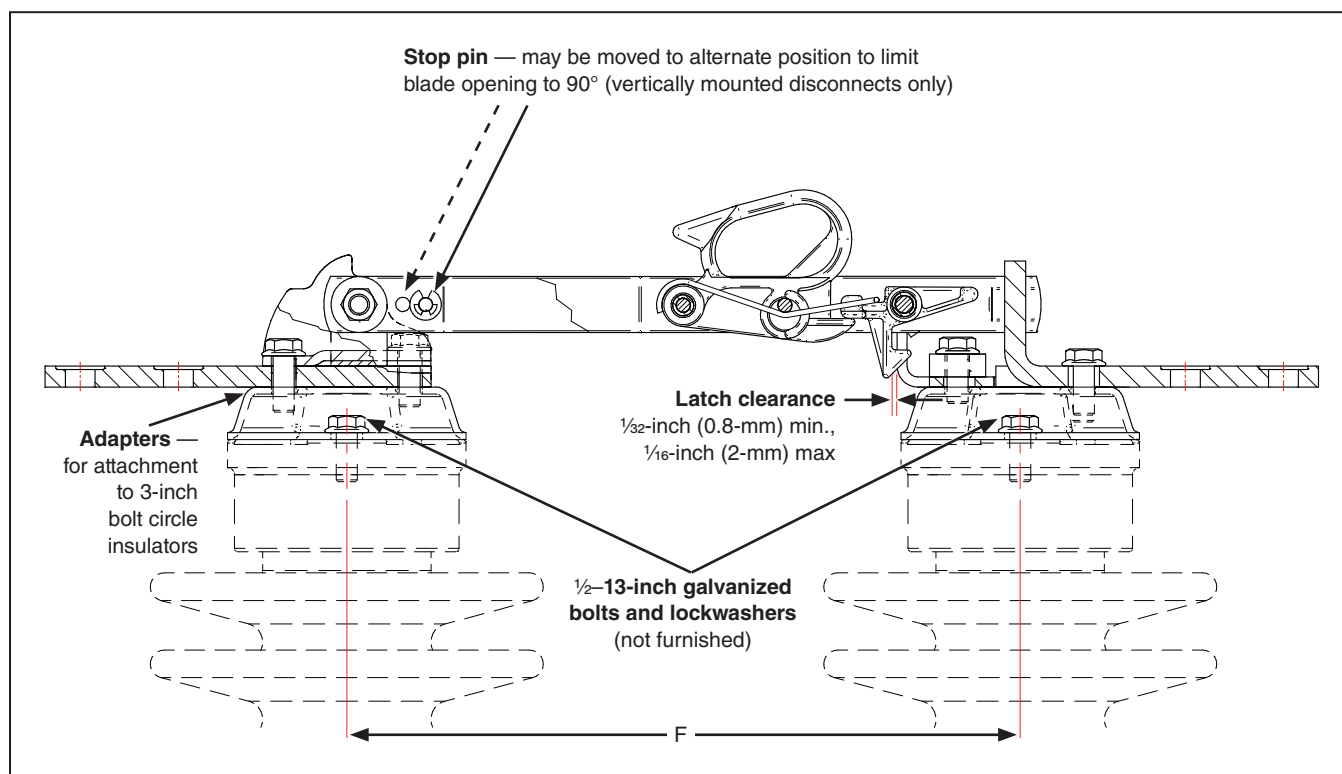
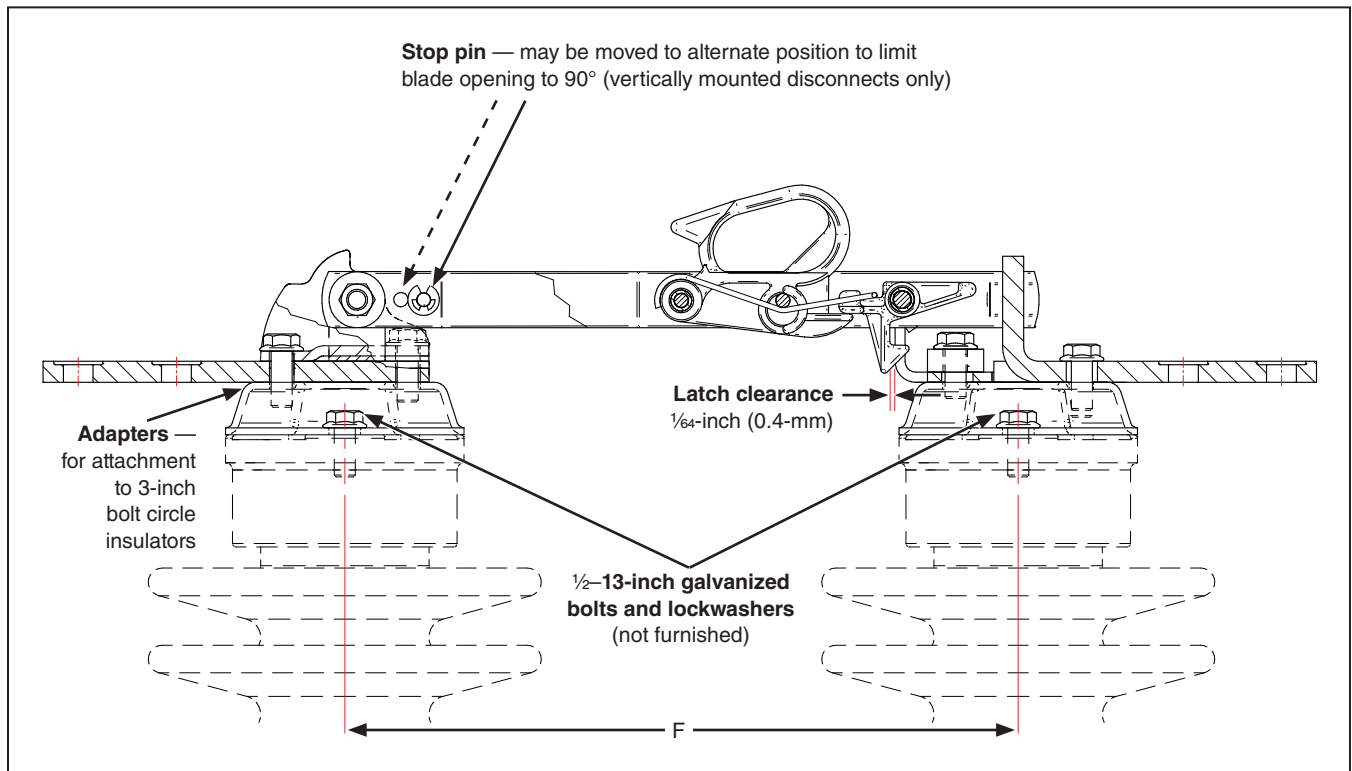

Figure 2. Loadbuster Disconnect Switch live parts rated 630 amperes.
Figure 3. Loadbuster Disconnect Switch live parts rated 900 amperes.
Loadbuster Disconnect Switch live parts rated 630 amperes are furnished with preassembled adapters suitable for attachment to 3-inch bolt circle insulators. Loadbuster Disconnect Switch live parts rated 900 amperes are furnished either with preassembled adapters or without such adapters. See Table 2 and Figure 2 on page 10 and Table 3 and Figure 3 on page 11.
- STEP 1.** Install the insulators on the base with a center-to-center distance as indicated by Dimension F. See Figure 2 on page 10 and Figure 3 on page 11.
For 630-ampere live parts: Increase or decrease the hinge-to-jaw distance—Dimension F in Figure 2 and Table 2—to attain the $\frac{1}{16}$ -inch (2-mm) maximum, $\frac{1}{32}$ -inch (0.8-mm) minimum latch-to-jaw-contact spacing, as indicated in Figure 2. Securely tighten the live parts mounting bolts.
For 900-ampere live parts: Close up the hinge-to-jaw distance—Dimension F in Figure 3 and Table 3—until the latch member on the blade touches the jaw contact or the gap is less than $\frac{1}{64}$ -inch (0.4-mm). Securely tighten the live parts mounting bolts.
Perform several opening and closing operations to check for ease of operation and positive latching. There should be an approximate $\frac{1}{4}$ -inch (6-mm) latch engagement when the disconnect is fully closed; and a quick, easy opening tug at the pull-ring should be sufficient to release the latch. If necessary, make a slight adjustment to the hinge-to-jaw distance. See Dimension F in Figure 3.
For 630-ampere live parts: Increase or decrease the hinge-to-jaw distance—Dimension F in Figure 2 and Table 2 on page 10—to attain the $\frac{1}{16}$ -inch (2-mm) maximum, $\frac{1}{32}$ -inch (0.8-mm) minimum latch-to-jaw-contact spacing, as indicated in Figure 2 on page 10. Securely tighten the live parts mounting bolts.
For 900-ampere live parts: Close up the hinge-to-jaw distance—Dimension F in Figure 3 and Table 3 on page 11—until the latch member on the blade touches the jaw contact or the gap is less than $\frac{1}{64}$ -inch (0.4-mm). Securely tighten the live parts mounting bolts.
Perform several opening and closing operations to check for ease of operation and positive latching. There should be an approximate $\frac{1}{4}$ -inch (6-mm) latch engagement when the disconnect is fully closed; and a quick, easy opening tug at the pull-ring should be sufficient to release the latch. If necessary, make a slight adjustment to the hinge-to-jaw distance. See Dimension F in Figure 3 on page 11.
snaps back into the groove provided. See Figure 2 on page 10.
Assemble the stop pin into blade using $\frac{1}{4}$ -inch (6-mm) diameter hole nearest the hinge. Fasten the stop pin by pressing the supplied retaining rings over the end of the stop pin until the ring snaps into the groove provided. See Figure 3 on page 11.